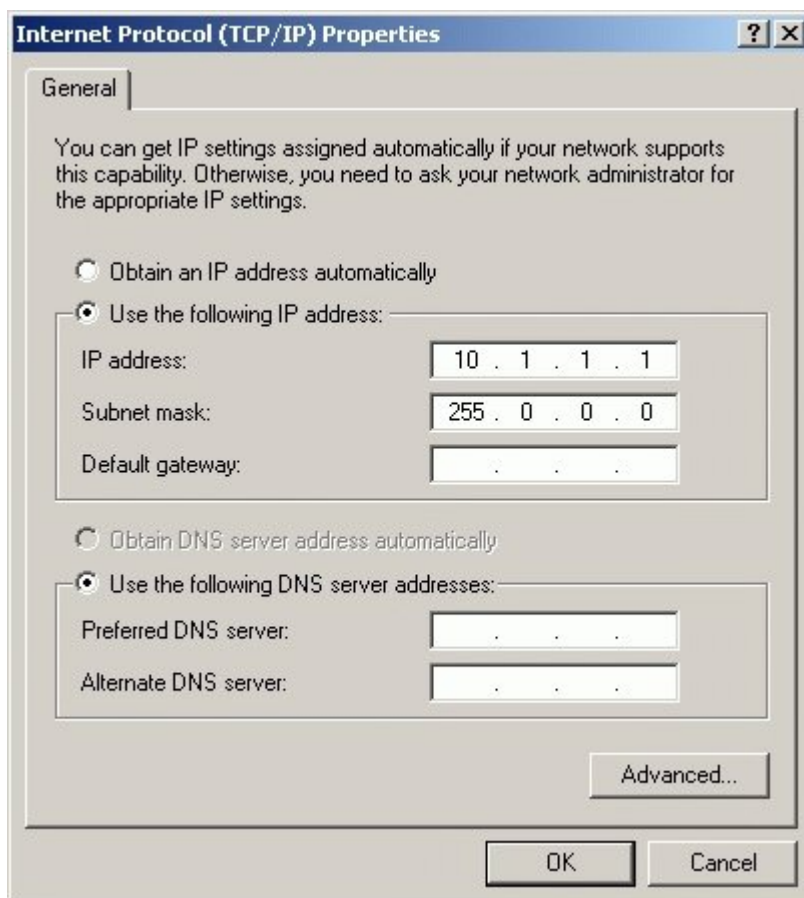

Figure 3.33. Internet Protocol (TCP/IP) Properties dialog box
5. Double-click the Internet Protocol (TCP/IP) entry. The Internet Protocol (TCP/IP) Properties dialog box displays (Figure 3-33).